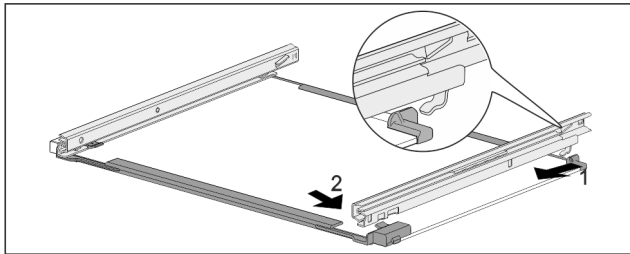

Fig. 172 Glass shelf with rails
- Hook in rail at the back. Fig. 172 (1)
- Hook in rail at the front. Fig. 172 (2)